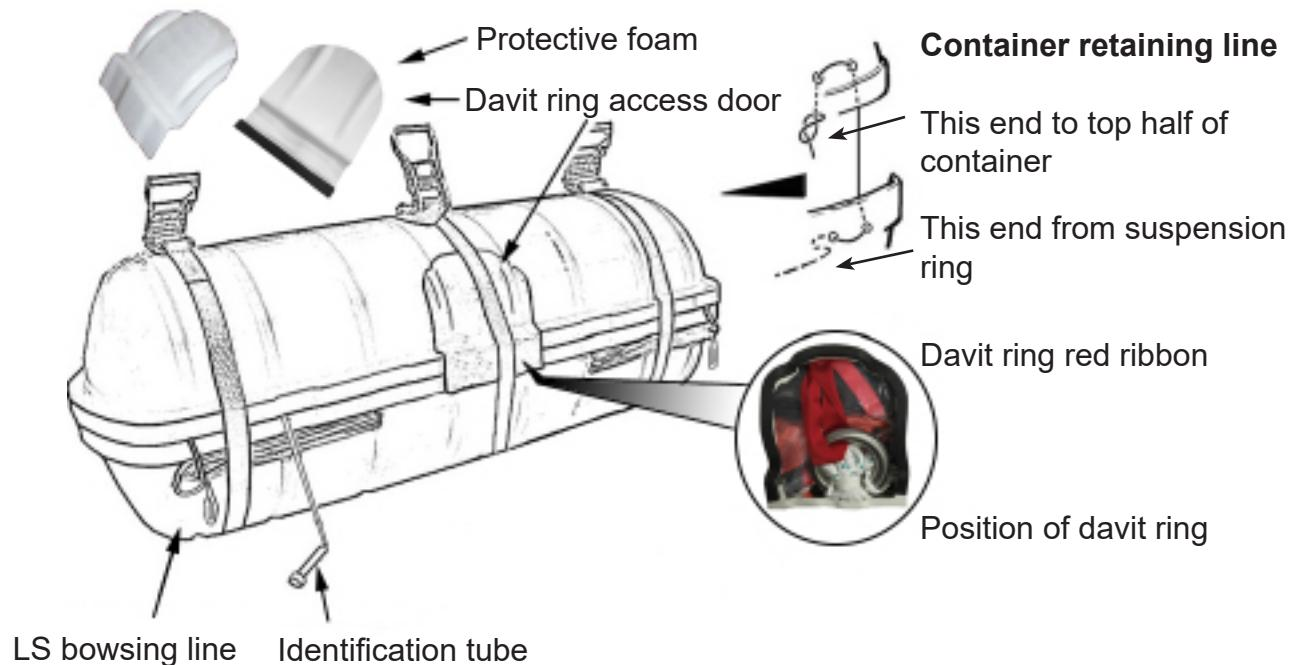

FIGURE 835
Make sure that the rigging lines are neat and tidy and the davit ring ribbon is projecting through the cut-out. Refer to FIGURE 835.
Refer to FIGURE 835.
- 5.58 Take the end of the container retaining line from the bottom half container, route the free end out through a hole in the top half container and back in again through the other hole. Refer to FIGURE 835.
- 5.59 Put three ratchet straps around the container, make sure the straps do not cover the grooves in the container. Refer to FIGURE 835.
- 5.60 Continue closing the container slowly, while alternating from one ratchet strap to the other ratchet strap. Whilst doing so, CAREFULLY position the top half of the container either by striking it with a rubber mallet or by levering it with a hardwood or metal spatula against the bottom half. Refer to FIGURE 835.
Replace the container seal strip (P/N 05606009) around the edge of the DL ring access hole in the container lid at every service. Two strips of protective foam are put along the bottom of the cover / door. Refer to FIGURE 835.
- 5.63 Install the davit ring access door onto the container. Refer to FIGURE 835.
CAUTION: FOR ALL LIFERAFTS, IT IS ESSENTIAL THAT CRIMPS ARE ATTACHED ON THE OPPOSITE SIDE OF THE CONTAINER TO THE ROLL OF THE LIFERAFT, FIGURE 835.